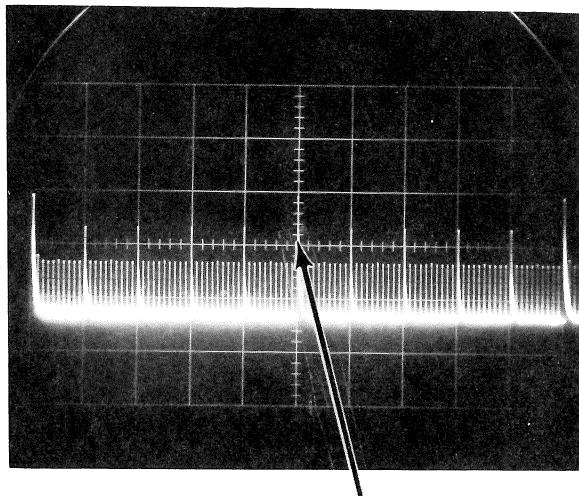

Figure 50 Adjust R569 - SWEEP MAG REGIS
4. Set SWEEP MAGNIFIER to X1 and adjust the SWEEP MAG REGIS (R569-See Figure 49) to position the middle 5 msec marker to the center of the graticule. (See Figure 50) Repeat steps 3 and 4 until there is no horizontal movement of the middle 5 msec marker while switching the SWEEP MAGNIFIER from X1 to X10.